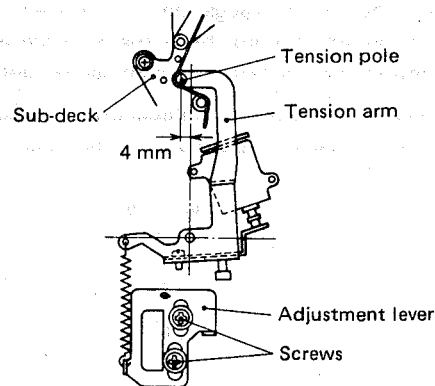

Fig. 2-33 Showing the normal state in Play mode.
6. Figure 2-33 shows a normal state of the tension pole in the Play mode after completing the adjustment.